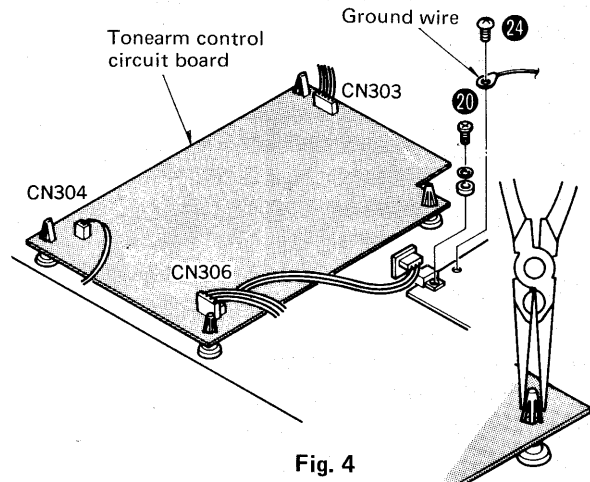

Fig. 4
3. Remove the transistor setscrew (Fig. 4 : 20).
4. Release the 4 claws by pliers as shown in Fig. 4.
2. Remove the ground wire setscrew (Fig. 4: 24).